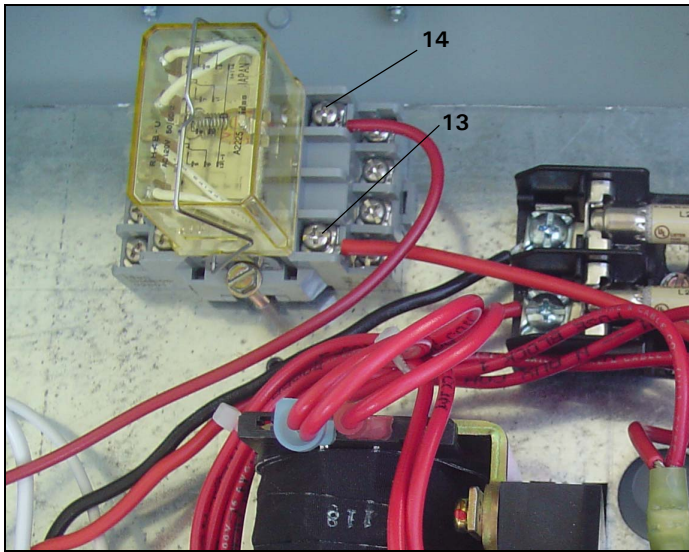
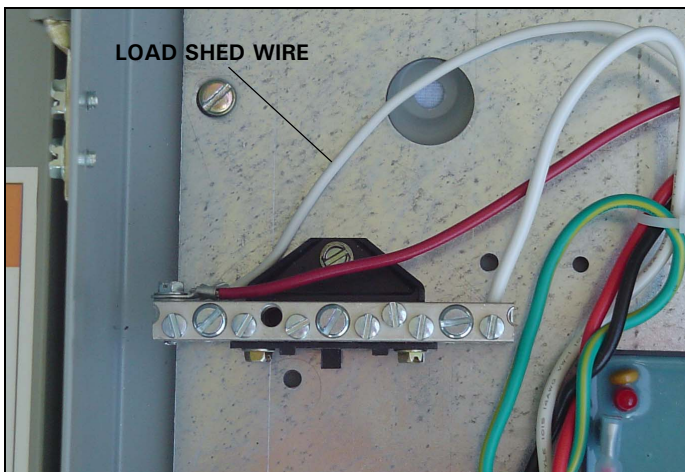
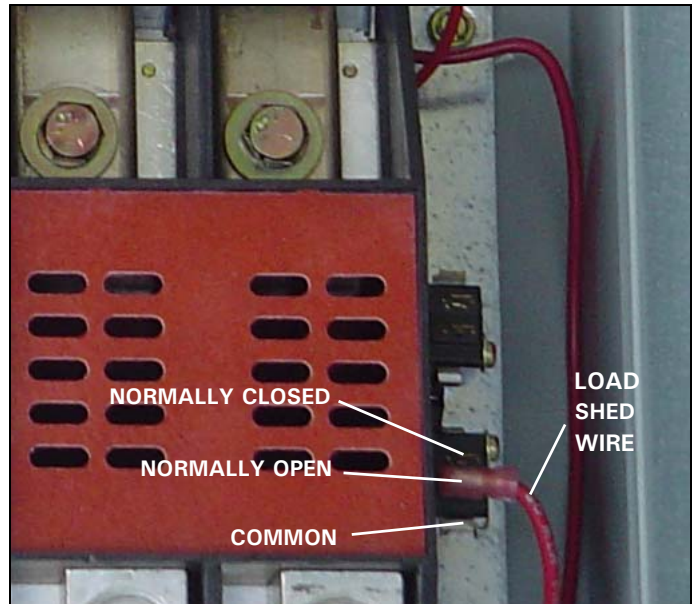

Figure 84. Main Wire Connections at the Load Shed.
Figure 85. Load Shed Wire Connected to the Neutral Bar (100 A ATS).
Figure 87. Load Shed Wire Connected to the Normally OPEN Terminal on the Auxiliary Switch.
Step 2: Connect one of the supplied wires to terminal # 14 on the load shed (see Figure 84). Route the wire from the load shed to the neutral bar. On 100 A ATSS, cut the wire to the proper length, strip 0.25 in. (6.35 mm) of insulation from the end of the wire, then crimp the supplied ring terminal onto the wire. Using a blade screwdriver, remove the screw securing the white wire of the main wiring harness to the neutral bar. Align the ring terminal of the white wire with the load shed wire ring terminal and secure both to the neutral bar using the screw just removed (see Figure 85). Refer to the wiring diagram in Figure 20 for connection locations for the load shed wires.
Step 3: Connect one of the supplied wires to terminal # 13 on the load shed (see Figure 84). Route the wire from the load shed to the auxiliary switch on the right side of the contactor. Cut the wire to the proper length and strip 0.25 in. (6.35 mm) of insulation from the end of the wire. Crimp the smaller female flag connector supplied onto the end of the wire. Connect the female flag connector to the male flag terminal on the normally OPEN contact to the auxiliary switch (see Figure 87).